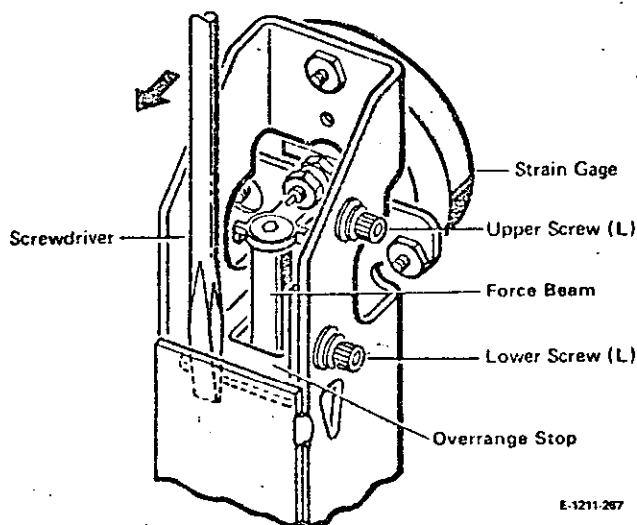

Figure 12. Adjusting Overrange Stop
2. Loosen both screws L, Figure 12. Check overrange stop to be sure it does not obstruct movement of force beam.
11. Use a screwdriver to adjust overrange stop as shown in Figure 12. Move stop toward strain gage until stop contacts force beam. Contact is indicated by a slight decrease in output (0.02V dc maximum). After adjustment, output must be within 0.02V dc of value noted in Step 9.